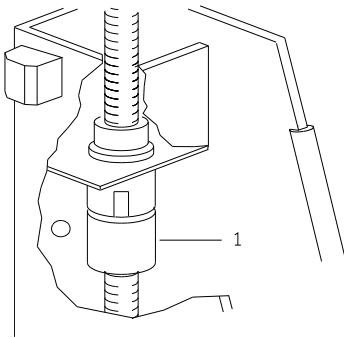

Fig.9
- in the case of damage to the load-bearing nut, a safety nut (ref1 Fig.9) is automatically engaged.